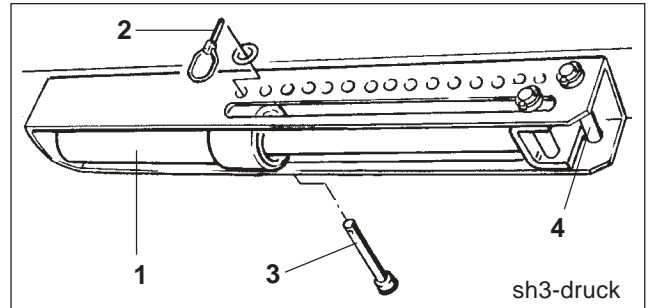

Fig. 12.6
Two pins (Fig. 12.6/3 and Fig. 12.6/4) function as limiter for the hydraulic ram (Fig. 12.6/1) in the setting segment. When the hydraulic ram is without pressure the top of it rests on the pin (Fig. 12.6/3) and when the hydraulic ram is pressurised it rests on the pin (Fig. 12.6/4).
- Pressurise hydraulic ram (Fig. 12.6/1).
- Insert pin (Fig. 12.6/3) into one of the holes of the quadrant plate and secure by a clip pin (Fig. 12.6/2). Each hole is identified by a figure. With increasing figures the coultter pressure will become higher.